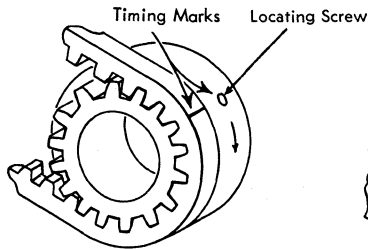

Figure 89. Platen Drive-Belt Timing
10. Insert the platen assembly so that the timing mark on the platen drive belt is directly in line with the set screw designated by an arrow on the platen drive-belt pulley. This allows platens to be removed and replaced without affecting the timing relationship (Figure 89).